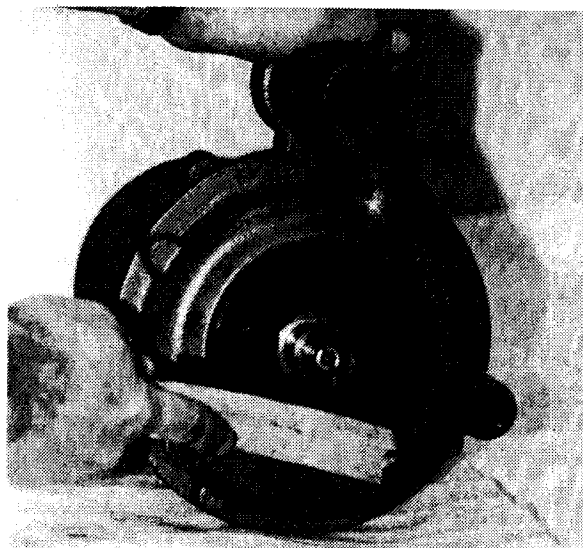

FIG. 5
6. Use wire brush and thoroughly clean any deposit from passage above grinder impeller and incavity for grinder ring. See Figure 5.